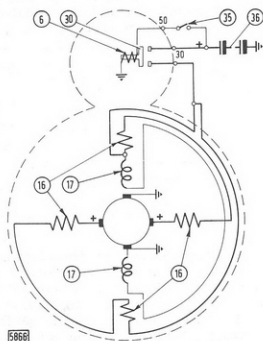

Fig. 248 - FIAT Starter Wiring Diagram
- Four windings, two of which include the coils (2 each) representing main and auxiliary windings (16 and 17, Fig. 248), whilst the other two are composed of one coil each completing the main field winding (16).